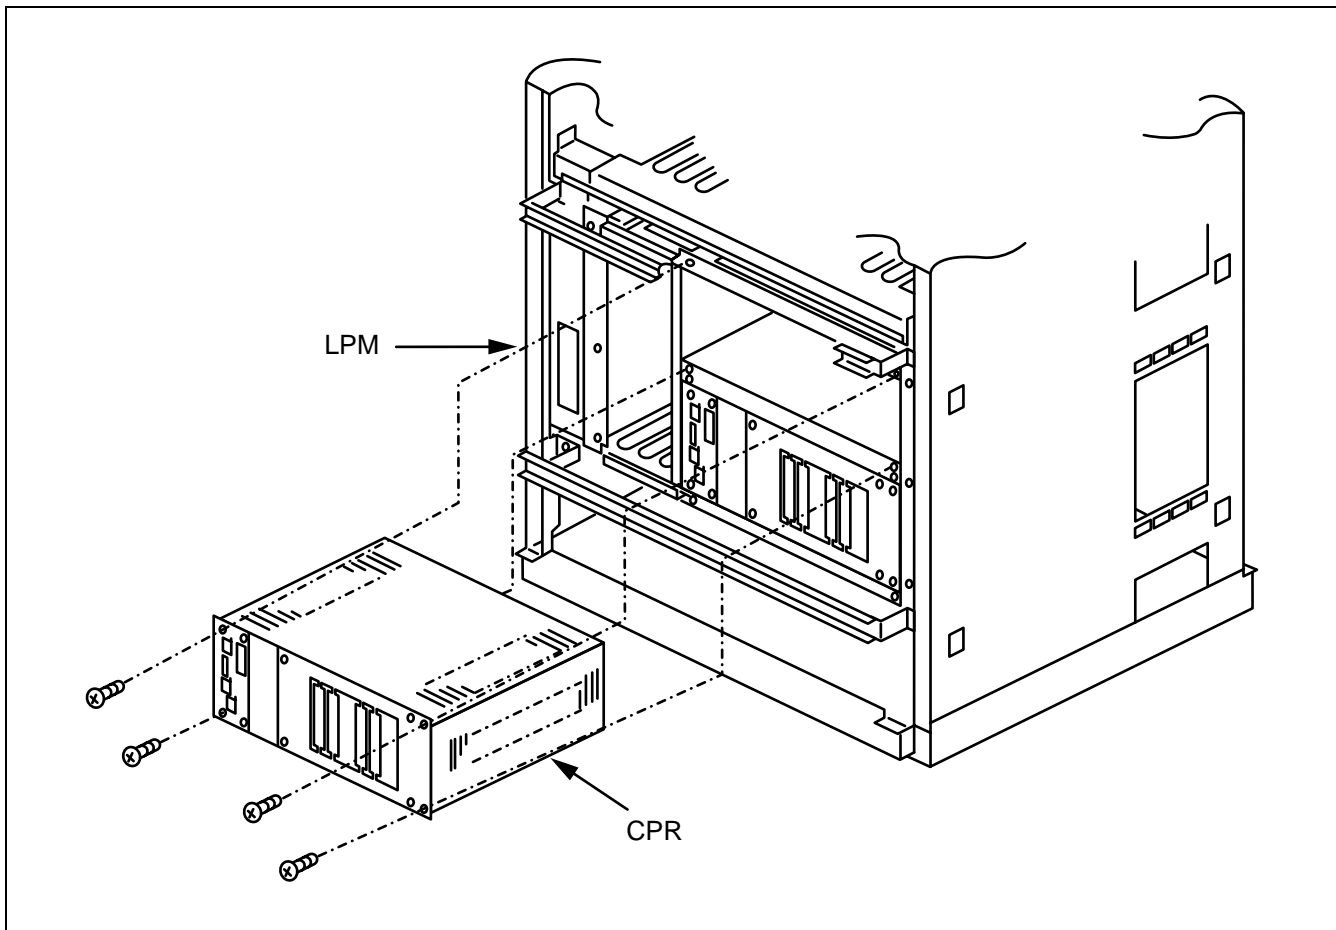

Figure 4-12 Location of New CPR Into LPM
- (4) After turning ON the MBR key on the DSP of the new CPR, insert the new CPR into the LPM as shown in Figure 4-12. Then, fasten the retained four screws.